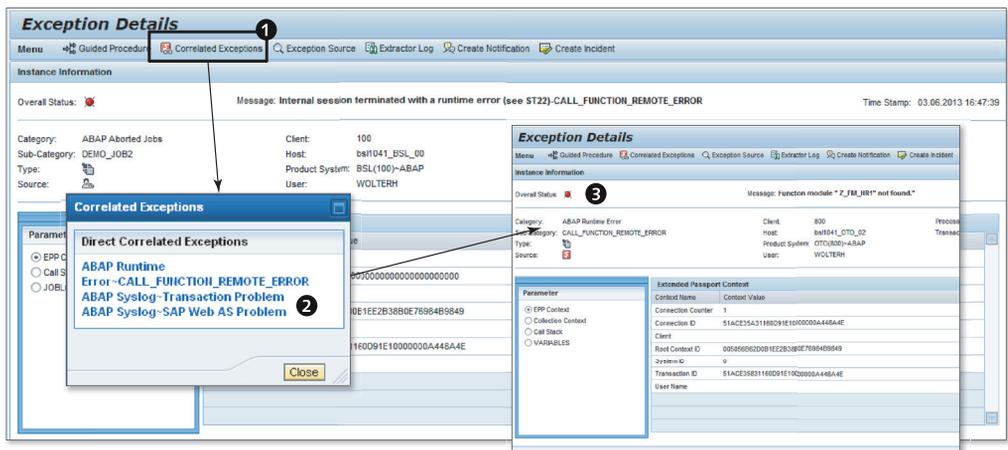

Figure 4.54 Detail View for Exception Selected and Display Screen for All Correlated Exceptions
Then, in the detail view, we select **CORRELATED EXCEPTIONS** (❶ in Figure 4.54). The **CORRELATED EXCEPTIONS** window contains all error messages generated in those systems in which this job was aborted. (❷). You do not have to search for the systems involved; this is done automatically. In the window that opens, we select the exception associated with the runtime error. The display screen branches to the detail view for the runtime error generated by the system (❸). In the **PRODUCT SYSTEM** field, you can see that the runtime error was triggered in the system OTO.
If you choose EXCEPTION SOURCE (see Figure 4.54), you can navigate via the Web GUI directly to Transaction ST22 in the system OTO and view the entire dump there.